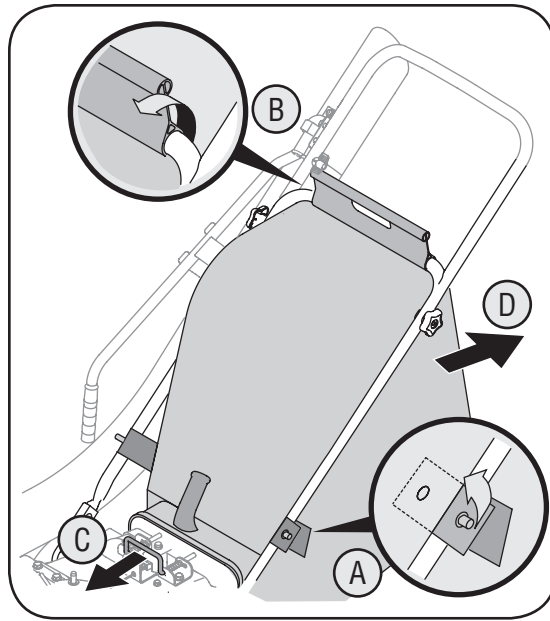

Figure 4-2
b. Unsnap bag clip from the top of lower handle. See Figure 4-2.